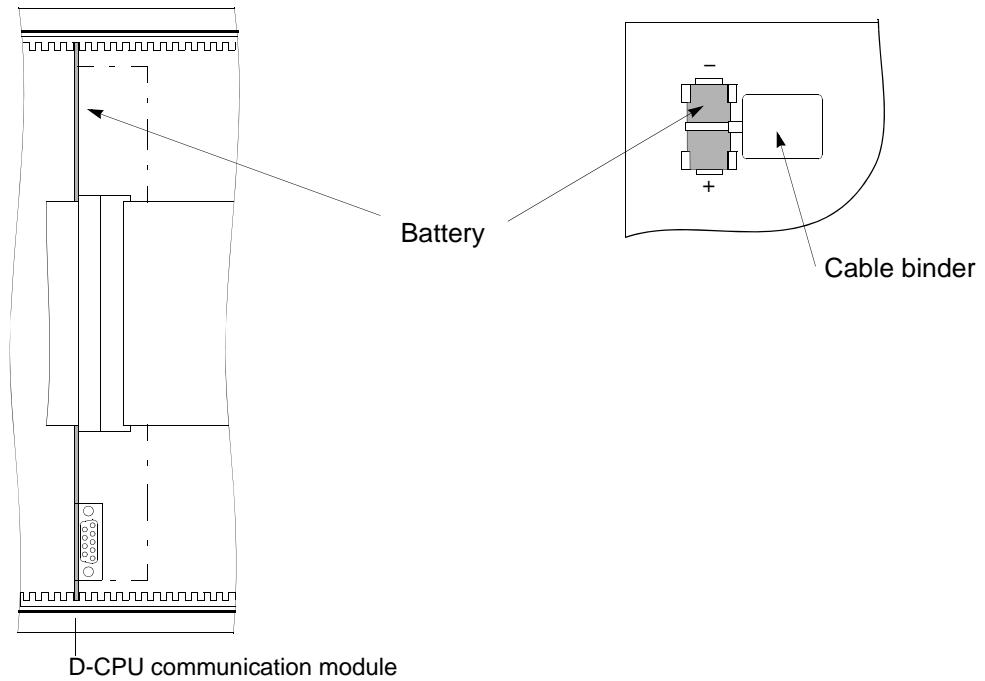

Figure 8-5 Front view after removing the front panel, and location of the buffer battery
- The battery is located on the top front of the D-CPU communication module (Figure 8-5, page 334).
- Press the new battery firmly into its snap-in holder (see Figure 8-5, page 334).